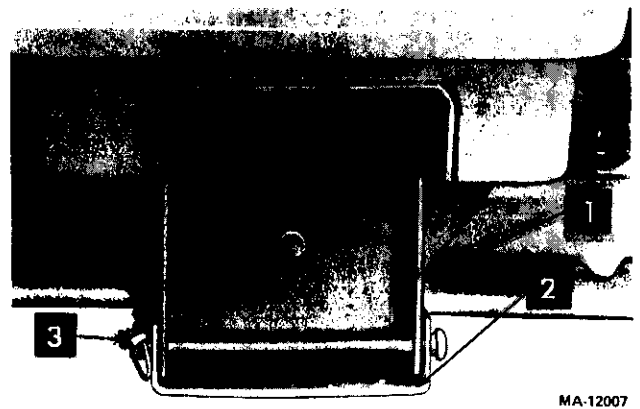

FIGURE 22.
4. Detach the front mower leveling link from the front hanger bracket and the front of the mower by removing the pins which are held by klik pins. See figure 22.